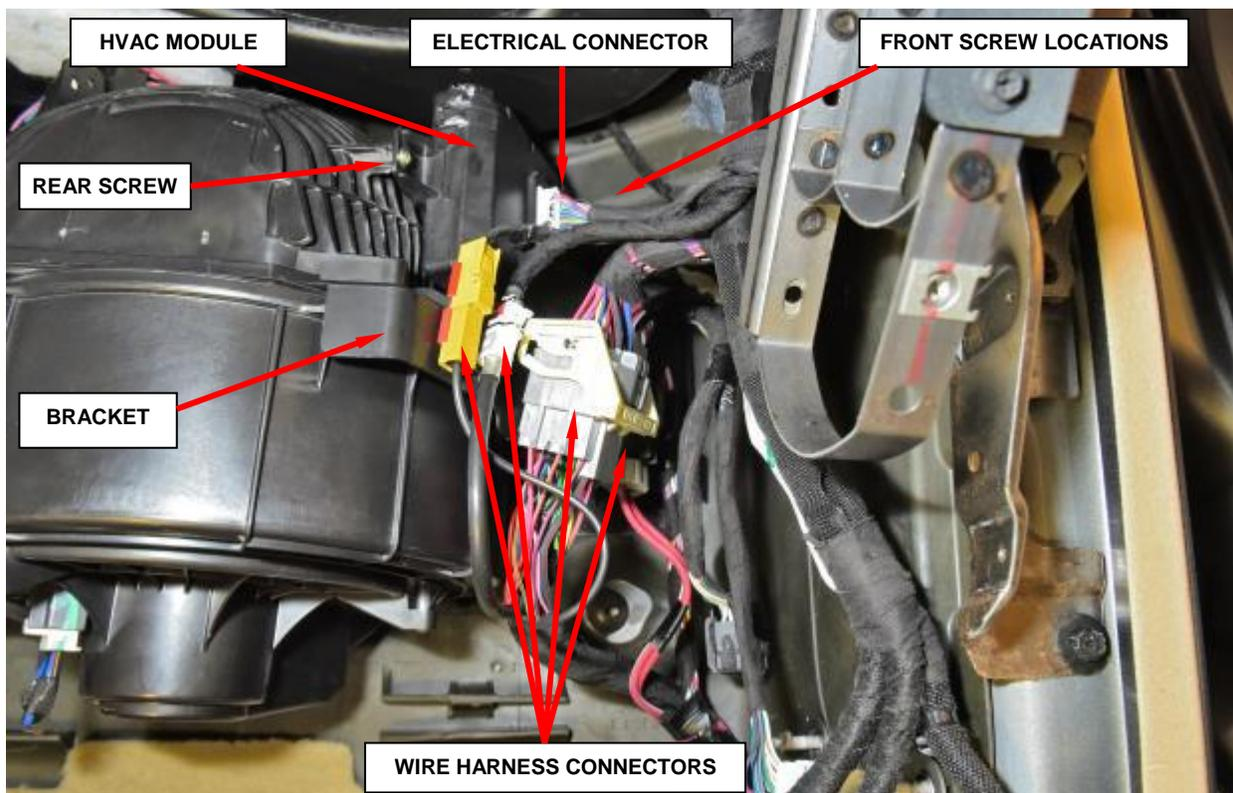

Figure 27 – HVAC Module
7. Disconnect the electrical connector from the HVAC module, located on the air inlet housing (Figure 27).
8. Release the wire harness connectors from the bracket (Figure 27).
9. Loosen the two screws that secure the front of the HVAC module to the air inlet housing (Figure 27).
10. Remove the one screw that secures the rear of the HVAC module to the air inlet housing (Figure 27).